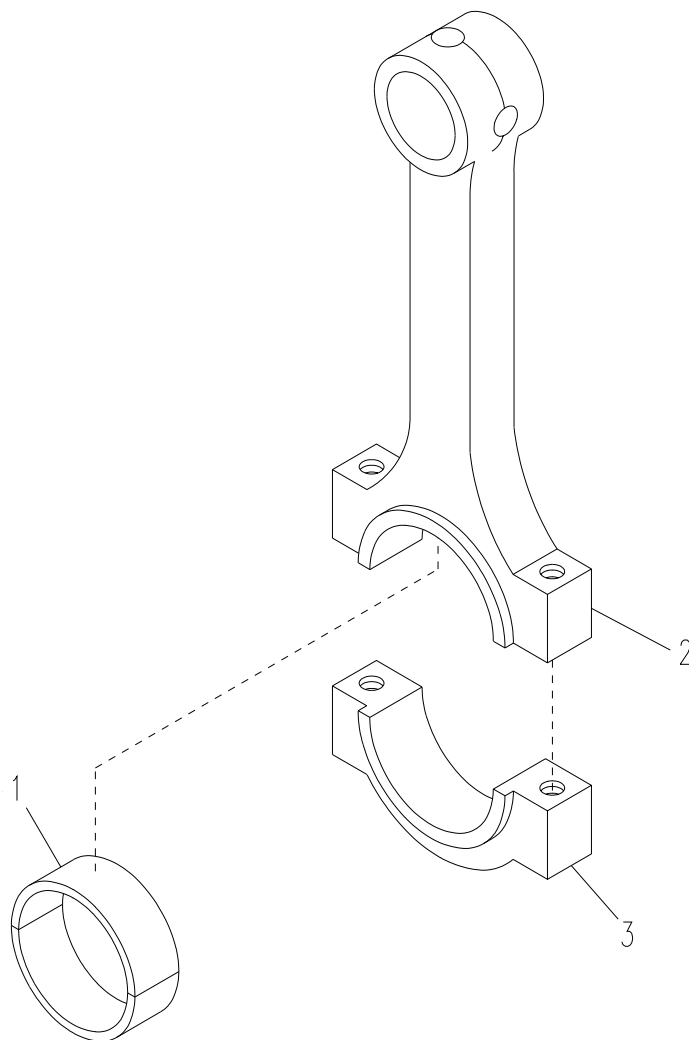

Figure 6-24. Connecting Rod Bearing
- a. Remove connecting rod bearing (1, Figure 6-24) from connecting rod (2).
- b. Install connecting rod bearing (1) on connecting rod (2).